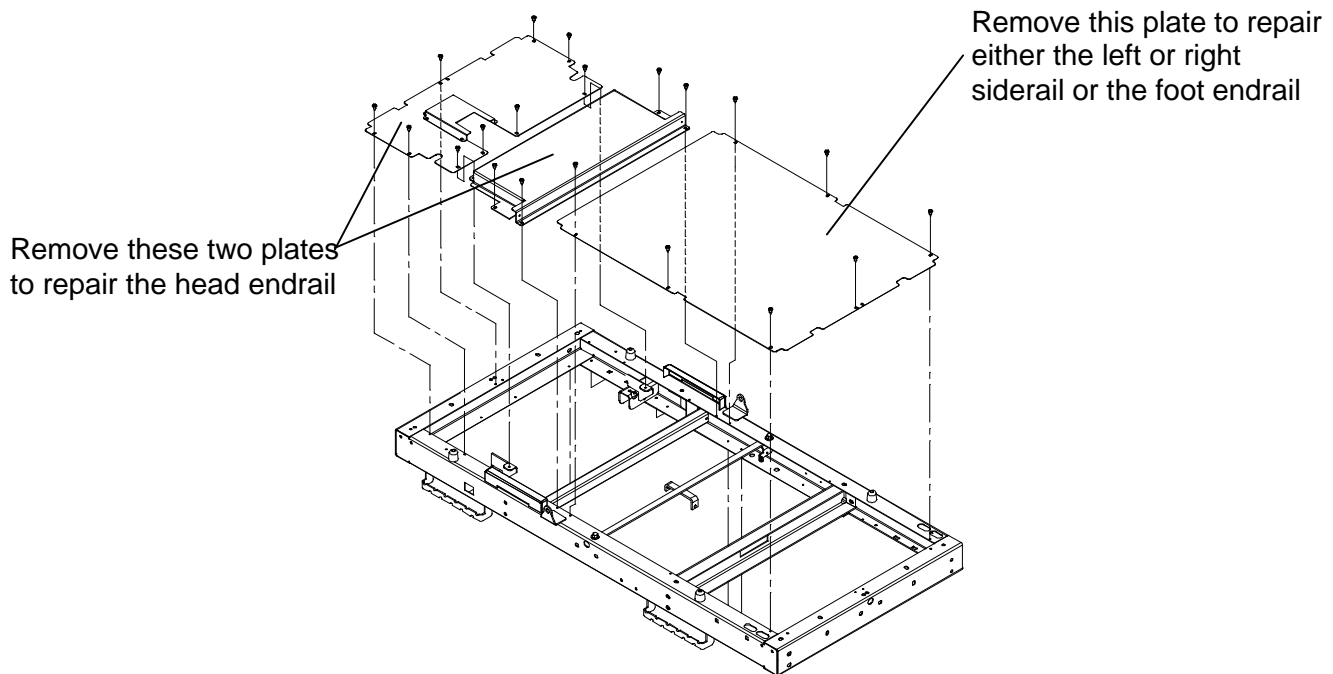

Figure 3.14D
3. Use a Phillips screwdriver to remove the screws holding the foot or head protective plate to the frame. Refer to figure 3.14D above to remove the appropriate plate.